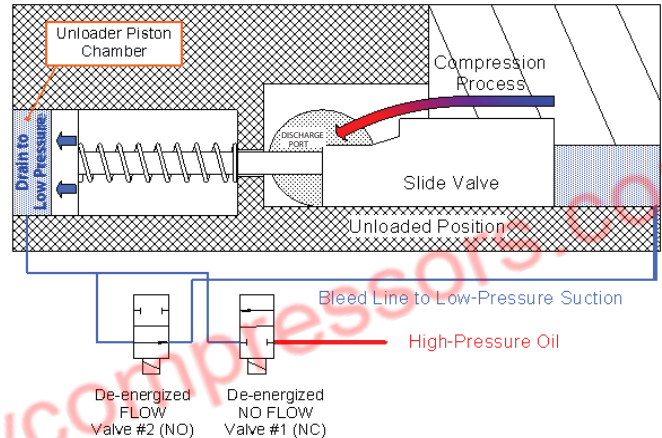

Fig. 20 — Configuration for Maintaining Part Load
- Part load is achieved by stopping the load or unload process previously described at an intermediate slide valve position. Stopping the valve at an intermediate position is accomplished by de-energizing valve #1 and energizing valve #2 (Fig. 20). When this happens, both valves are closed and the piston is not allowed to move. Cycling of the solenoids may be required to compensate for leakages around the piston seal, etc.